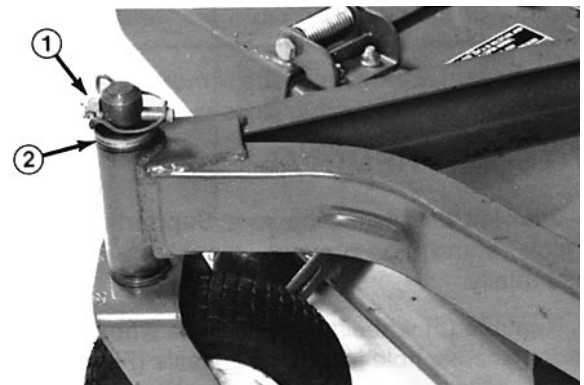

Figure 9
4. Insert the pin punch into the top or bottom of the mounting tube and drive the bushing out of the tube (Fig. 9). Also drive the other bushing out of the tube. Clean the inside of the mounting tube to remove any dirt.